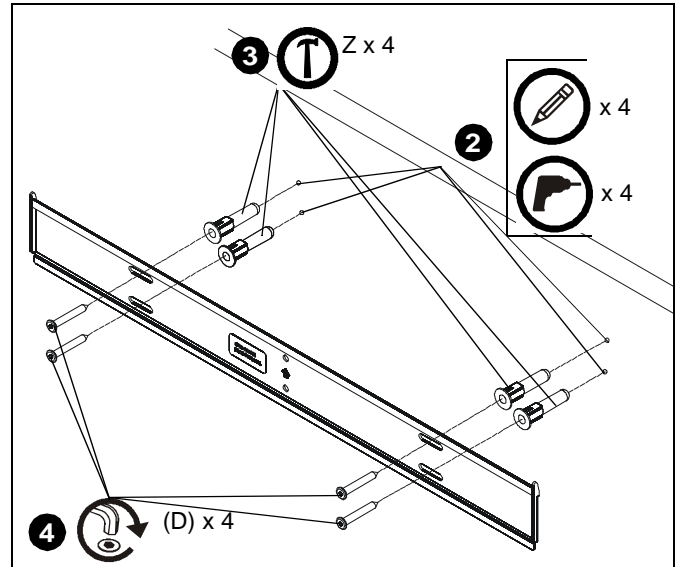

Figure 3
2. Using wall plate as a template, mark and then drill four 5/16" diameter pilot holes through mounting surface. Use level to make sure wall plate is perfectly horizontal. Holes must be drilled at least 2-1/4" deep. (See Figure 3)
3. Install four anchors (Z) into pilot holes drilled in Step 2. Use a hammer to tap anchors into holes. (See Figure 3)
4. Install four connector screws (D) through wall plate holes and into anchors. (See Figure 3)
5. Install four button head cap screws (E-P) through required washers (Q) and spacers (R-U), interface brackets (B) into holes on back of display. (See Figure 3)
**NOTE:** Make sure locking flags are in the open position before attaching display to wall plate. Flags are shown in the open position in Figure 3.